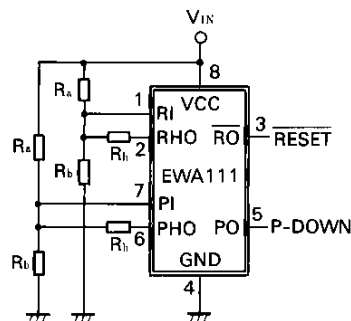

Fig. 4 Hysteresis voltage external setting circuit
System power-supply conditions may require a change in hysteresis voltage value of the input voltage detection circuit. Figure 4 shows an application circuit for external adjustment of the hysteresis voltage value. V_{RIH} (or V_{PIH}) and V_{RIL} (or V_{PIL}) can be calculated using formulas (5) and (6).